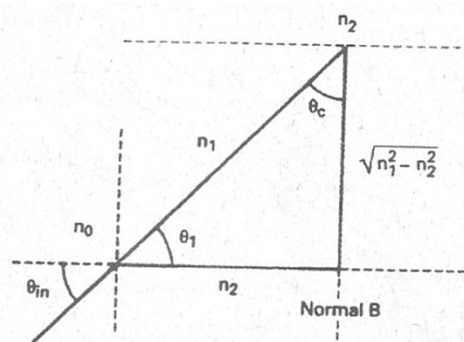

FIGURE 1-12 Geometric relationship of Equations 1-11a and b
- Using Figure 1-12 and Snell's Law, it can be shown that the maximum angle that external light rays may strike the air/glass interface and still enter the core and propagate down the fiber is